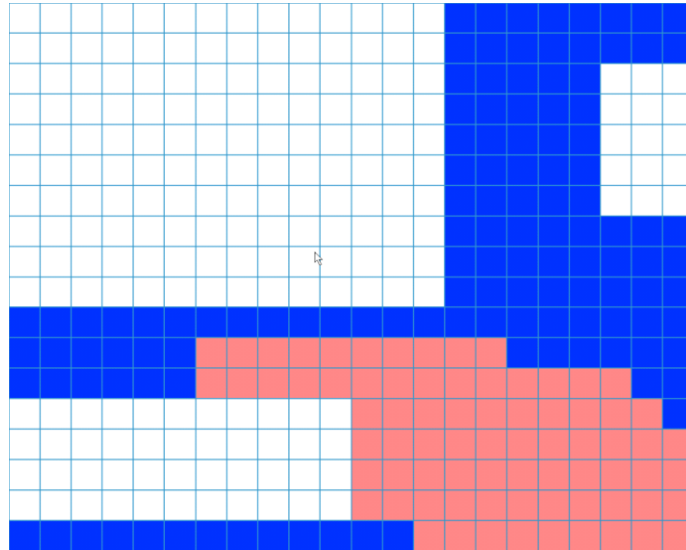

Figure 4-31
- Test: Click it to test current motion detect setup (do not need to save). Click Select button after Region, you can set motion detect area. The default setup is whole region. The blue zones are the selected area. Please set sensitivity and click Test button, you can see system only display motion detect status of the blue area. The red flashing area is current motion detect. See Figure 4-31.